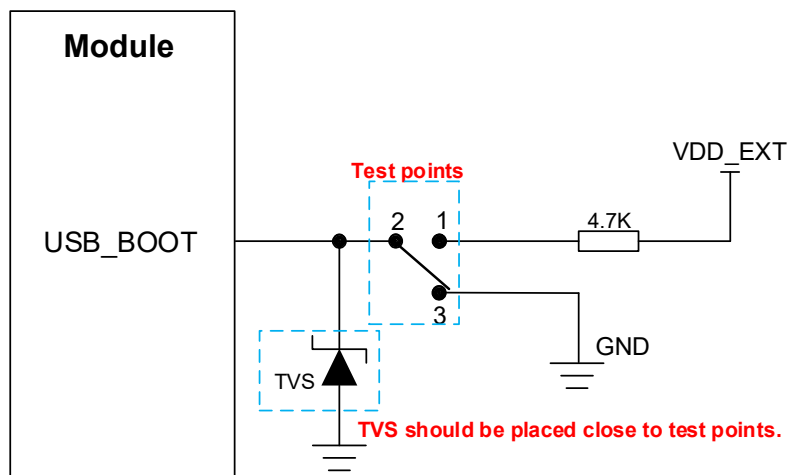

Figure 15: Reference Design of USB_BOOT
2. If you need to manually force the module to enter forced download mode, directly connect the test points shown in **Figure 15**.